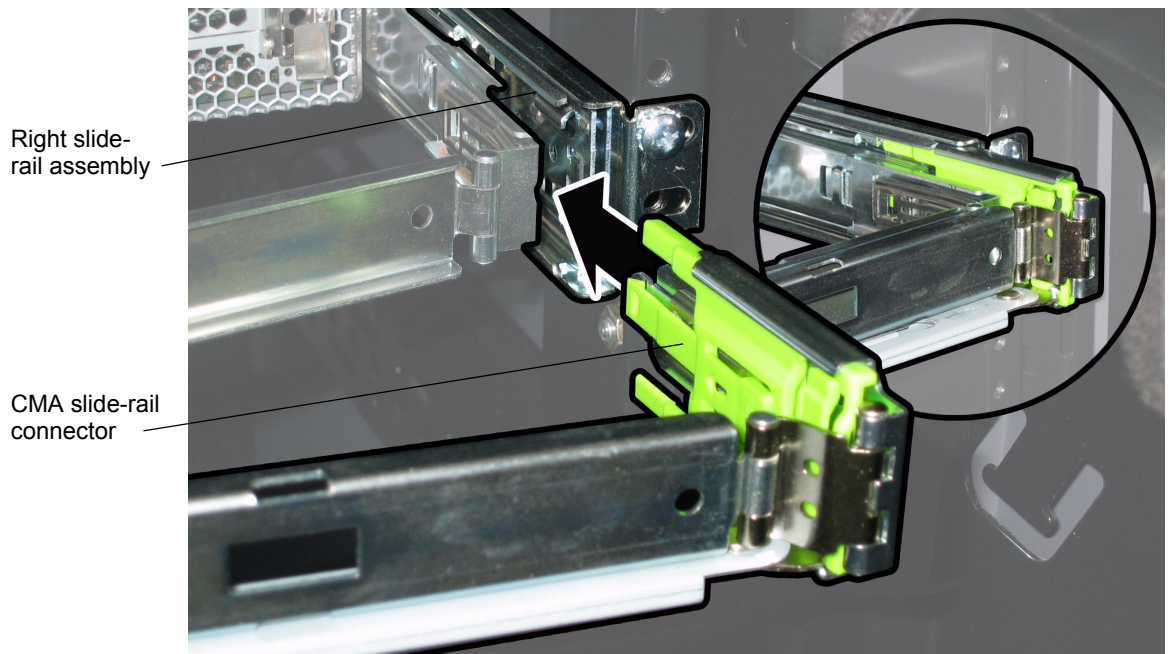

FIGURE 1-8 Inserting CMA Slide-Rail Connector Into Rear of Right Slide-Rail Assembly
6. Insert the right CMA slide-rail connector into the right slide-rail assembly until the connector locks into place with an audible click. See FIGURE 1-8.